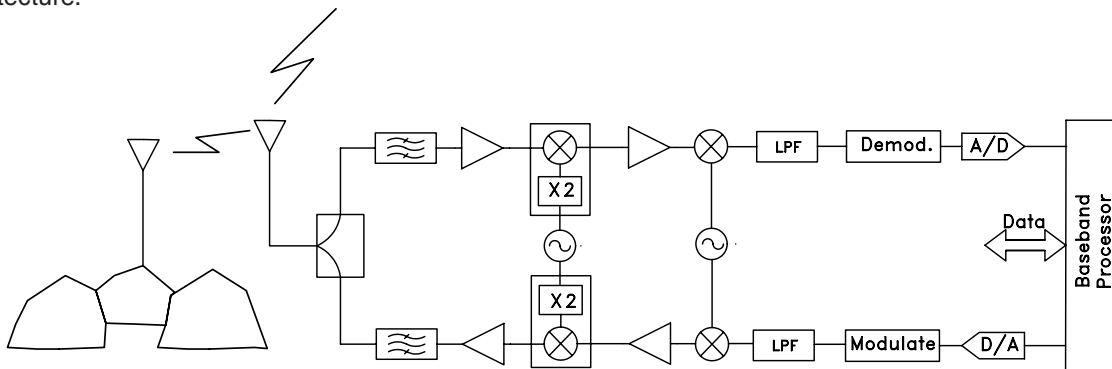

Figure 1 - Microwave super-heterodyne point-to-point radio
To meet the low cost and reliability requirements of these microwave radios Hittite Microwave Corporation has designed integrated MMIC circuits that meet these new market demands. These new devices include components such as mixers, VCOs, prescalers, attenuators and amplifiers to integrated down-converters, up-converters, frequency multipliers, phase-locked oscillators (PLOs) and multi-chip modules (MCMs). Figure 1 shows a block diagram of a typical microwave radio transmit and receive chain in a typical super-heterodyne architecture.
The transmit and receive chains both contain amplifiers and mixers which are realized as Microwave Monolithic Integrated Circuits (MMIC). The amplifiers typically incorporate some type of automatic gain control to prevent saturation of succeeding components, particularly the analog to digital converter. There are filters at the transmit and receive frequency to reject interference and spurious products generated by the amplifiers and mixers as well as out-of-band interferers. The mixers shown in figure 1 are comprised of both subharmonic and fundamental mixers. The subharmonic mixers require a local oscillator (LO) signal which is at approximately $\frac{1}{2}$ the RF frequency. These mixers create the majority of spurious signals present in the receiver and transmitter. Since the levels of the spurious emissions will drive the complexity of the filters, a mixer with good spurious performance and a carefully-designed frequency plan is required.